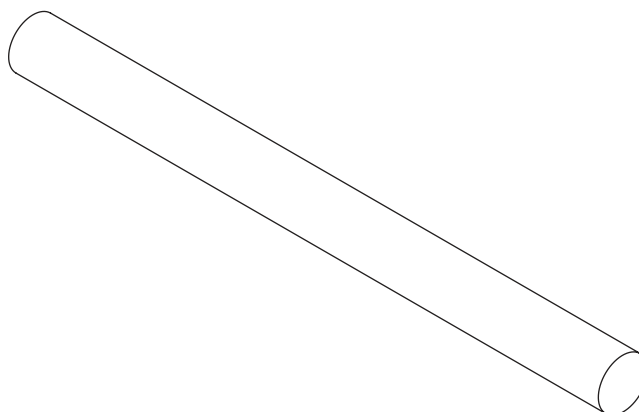

Figure 4.2
- (b) Use sketches and notes to show what is meant by torsion acting on the steel rod shown in Figure 4.2.